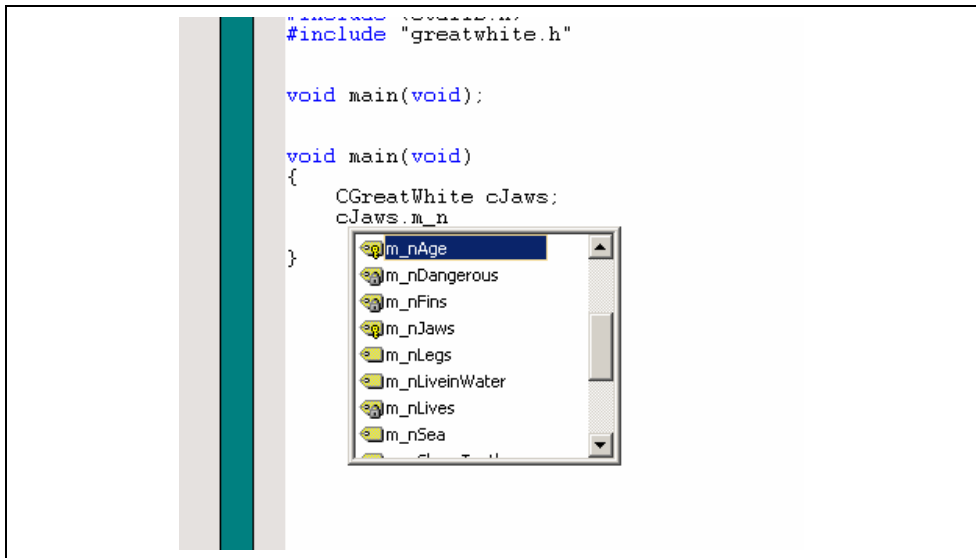

Figure 14.2: Smart-edit member selection
- ☞ If you are using an object and are trying to access the members using the '.' or '->'. If you do this a pop-up will be displayed which may help you select the correct member more efficiently than typing. Whilst typing the pop-up will keep track of the keys you have pressed to help your selection. If you press return then the currently selected member will be added. This pop-up is also used when using the '::' method and it is displayed in figure 14.2.